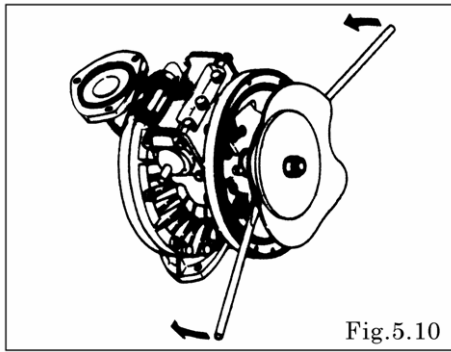

Fig.5.10
- Grip the inside center disk using crowbars and draw it to the opposite side, then turn the diaphragm over. (exclude B_H, B_S type) [Fig.5.10, 5.11]